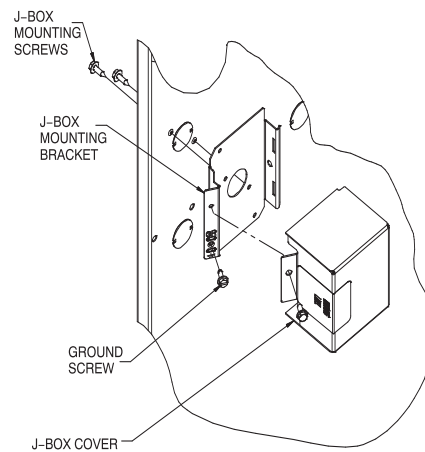

Fig. 35 – Installing J-Box (When Used) A12226
The J-Box cover, mounting bracket and screws are shipped in the loose parts bag included with the furnace. See Fig. 35 for J-Box mounting locations.
1. Install J-Box mounting bracket to inside of furnace casing. See Fig. 35.
- Connect field ground wire and factory ground wire to green ground screw on J-Box mounting bracket as shown in Fig. 35.
- Attach furnace J-Box cover to mounting bracket with screws supplied in loose parts bag. Do not pinch wires between cover and bracket. See Fig. 35.
- Install J-Box mounting bracket to inside of furnace casing. See Fig. 35.